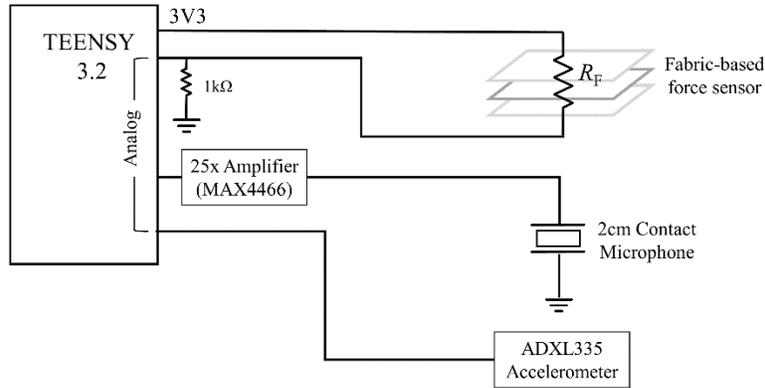
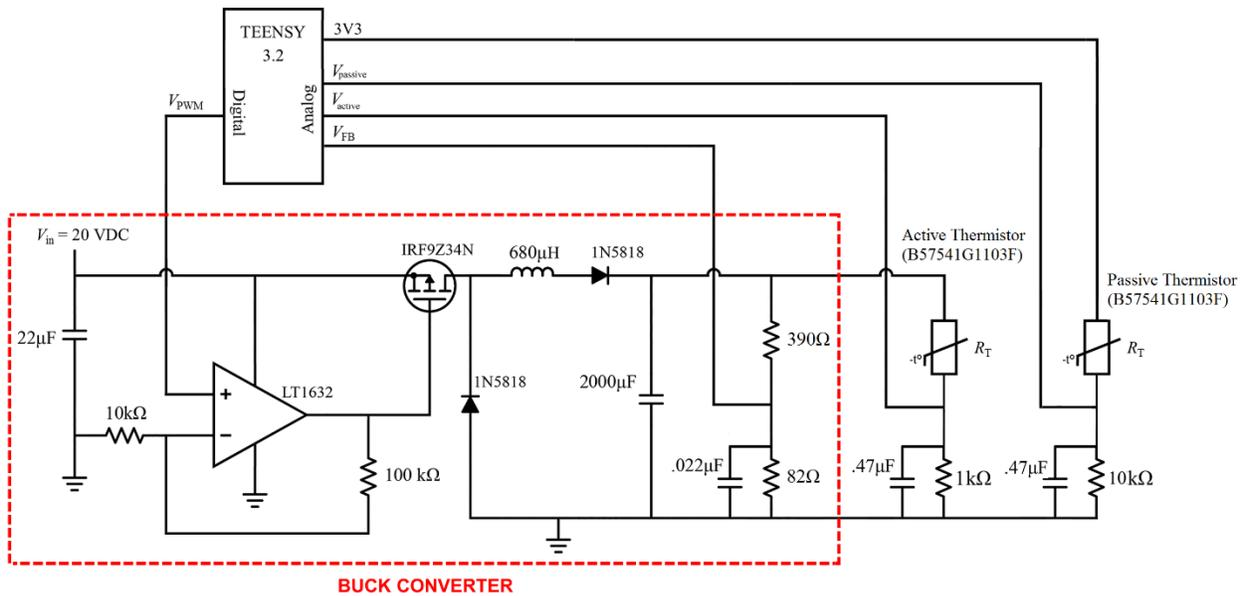

Figure 3: Circuit for force, audio and acceleration sensing
Figure 4: Circuit for active and passive thermal sensing
1.1 Fabric-Based Force Sensor: The fabric-based force sensor is based on our open-source fabric-based skin design. The force sensor's fabric-based electrodes are connected to stranded wires using conductive epoxy. Figure 3 shows the circuit used to read the sensor's signal at 1kHz.
1.2 Contact Microphone: As shown in Figure 3, we used a 2 cm contact microphone and a MAX4466 amplifier with the gain set at 25 to measure audio signals resulting from contact. The Teensy 3.2 microcontroller shown in Figure 3 measures the signals from the contact microphone at 10 kHz.
1.4 Active Thermal Sensor: The active thermal sensor uses a self-heated 10 k \$\Omega\$ B57541G1103F NTC thermistor. Figure 4 details the circuit used to provide power to, and read data from the thermal sensors at 100 Hz. Note that this Teensy 3.2 is separate from the one shown in Figure 3 that is used to measure force, audio and acceleration. The active thermal sensor is self-heated with an adjustable voltage input (typically 7 - 12V) from a buck converter.
1.5 Passive Thermal Sensor: Like the active thermal sensor, the passive thermal sensor uses a 10 k \$\Omega\$ B57541G1103F NTC thermistor. As shown in Figure 4, the circuitry for passive thermal sensing is similar to the active thermal sensor except that the sensor is powered by a constant 3.3V input from the microcontroller rather than a higher voltage buck converter. The passive thermal sensor also has a 10 k Ω reference resistor rather than a 1 k Ω reference resistor like the active thermal sensor. This higher resistance value limits the current passing through the thermistor to minimize self-heating for more accurate passive thermal sensing.
2.1 Code for measuring force, audio and acceleration: The code for the Teensy 3.2 shown in Figure 3 that measures force, audio and acceleration is available here. When flashed with this code, the Teensy communicates over serial with a baudrate of 500000. It will send sensor data over serial at a rate of 1 kHz.
2.2 Code for measuring active and passive thermal sensors: The code for the Teensy 3.2 shown in Figure 4 that measures active and passive thermal sensor data is available here. When flashed with this code, the Teensy communicates over serial with a baudrate of 115200. It will send sensor data over serial at a rate of 100 Hz. Because the thermal signals measured have much slower dynamics compared to the force, acceleration and audio signals, this slower sample rate of 100 Hz is sufficient.